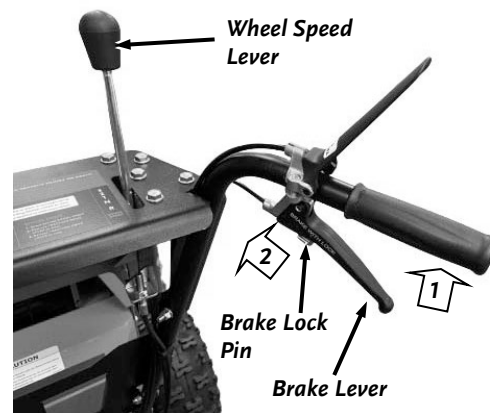

Figure 21
1. Shift the Wheel Speed Lever to Neutral **N** (**Figure 21**).